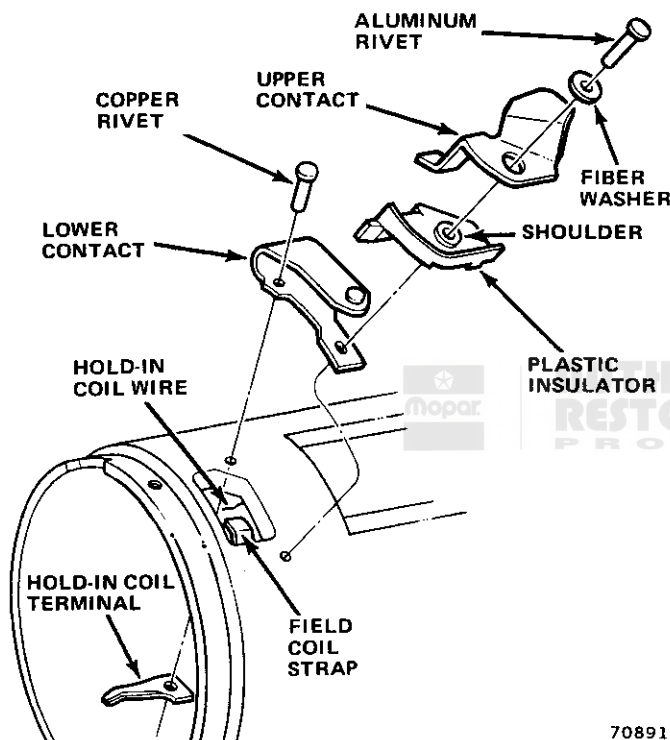

Fig. 1F-16 Solenoid Contact Replacement
(1) Cut upper contact as close as possible to contact-to-field coil joint.
- (2) Unsolder hold-in coil wire from terminal strip.
- (3) Remove field coil screws using arbor press and tool J-22516. Remove pole shoes.
- (4) Cut rivets inside frame with chisel. Remove contact assembly.
- (5) Position replacement lower (movable) contact on frame (fig. 1F-16). Position hold-in coil terminal strip inside frame. Install *copper* rivet through contact, frame and terminal. Upset rivet.